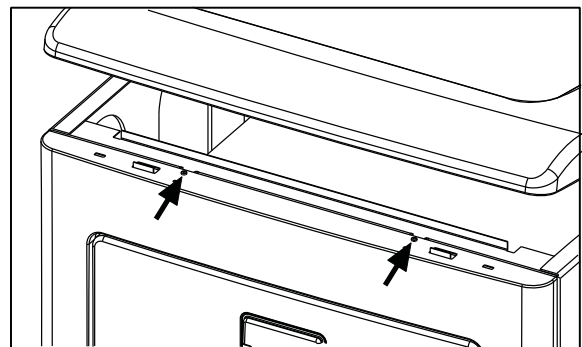

Figure 3
5. Prop open the top cover and remove the two screws securing the front panel. (Figure 3)